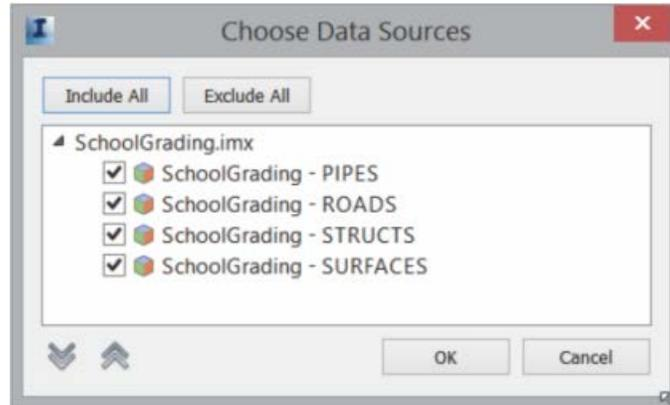

Figure 32
- In the Choose Data Source dialog box (shown in Figure 32), select the AutoCAD Civil 3D objects that you want to import. Click **OK**.